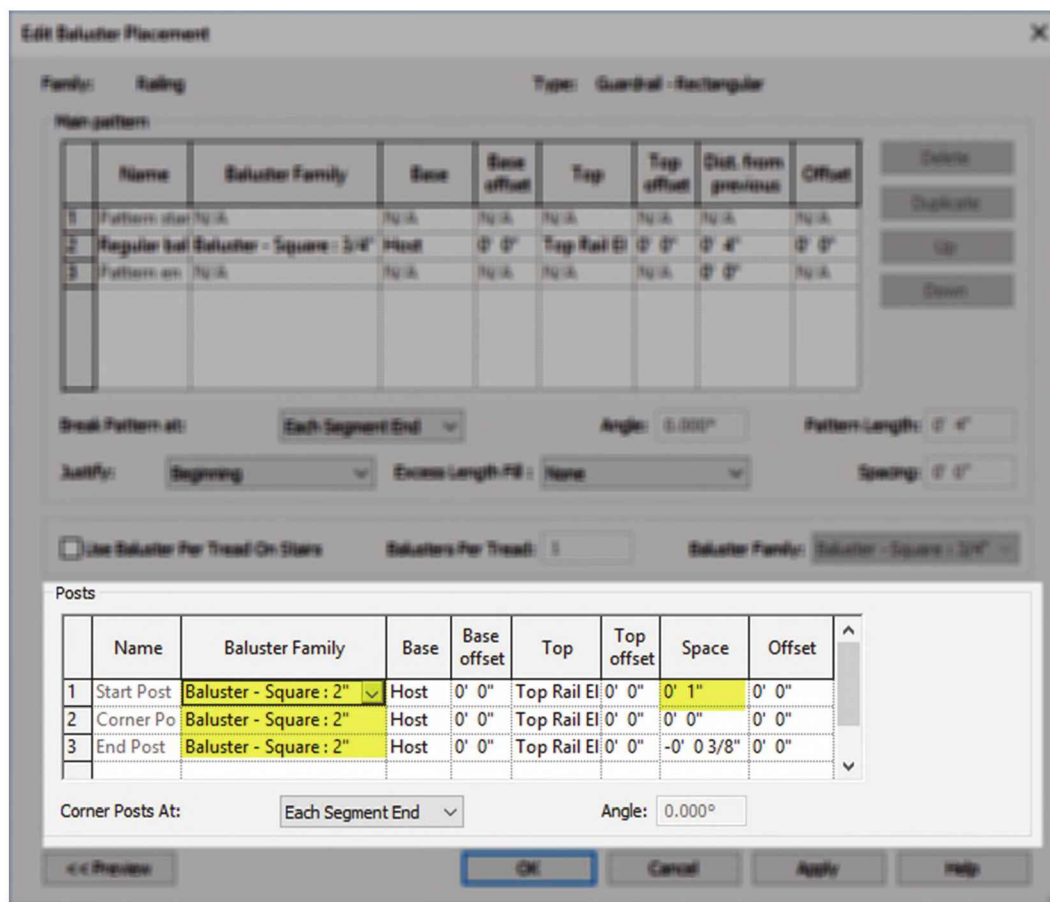

FIGURE 7-8.14 Edit Baluster Placement dialog; changing post family
25. Make the following edits (Figure 7-8.14):